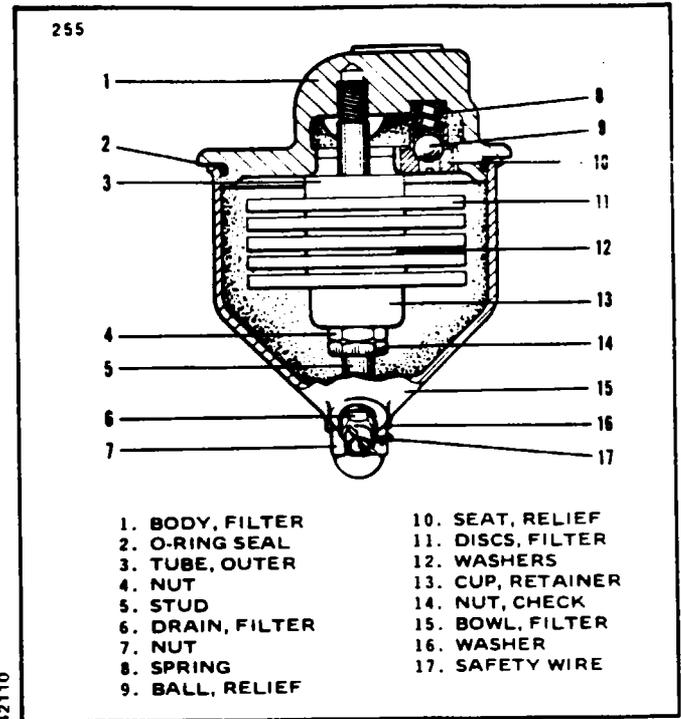

Figure 28-13. Fuel Filter
### **DISASSEMBLY OF FUEL FILTER.** (Refer to Figure 28-13.)
**CLEANING, INSPECTION AND REPAIR OF FUEL FILTER.** (Refer to Figure 28-13.)
**ASSEMBLY OF FUEL FILTER.** (Refer to Figure 28-13.)